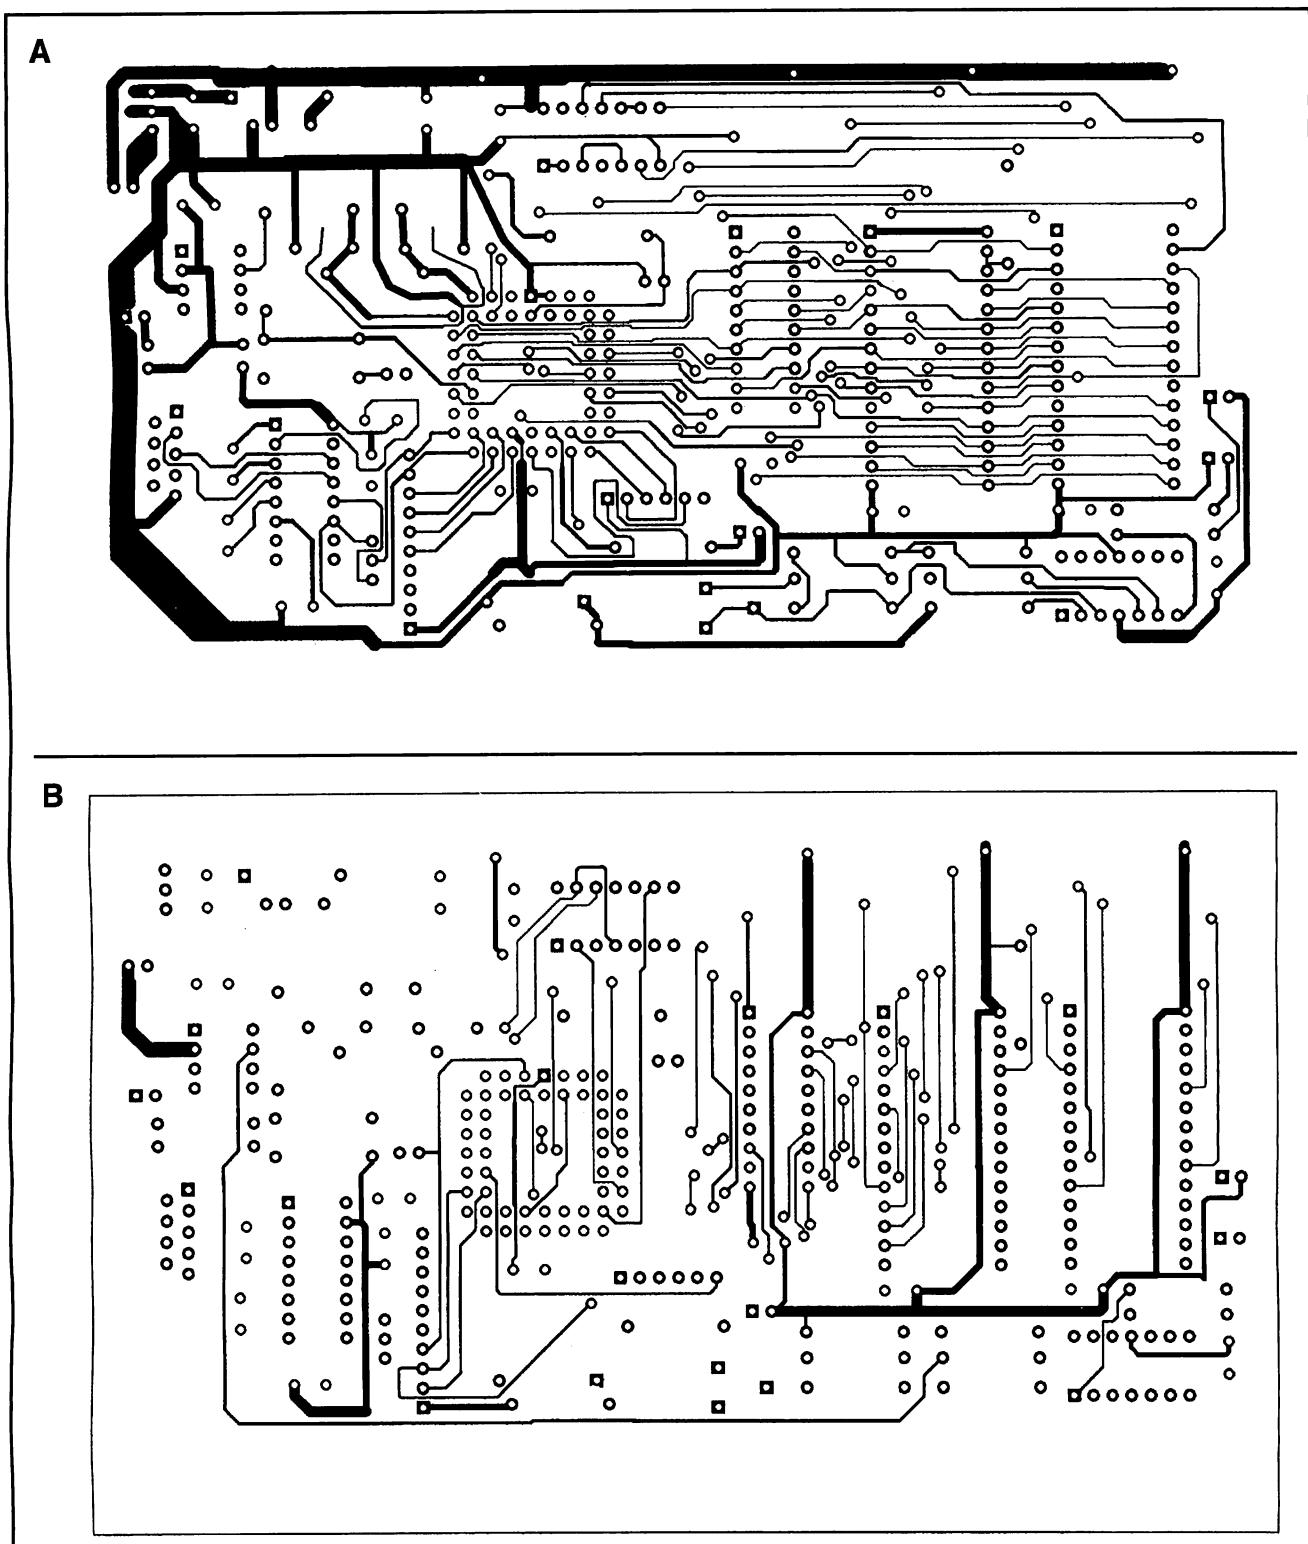

Fig. 2. Actual-size etching-and-drilling guide for MAGPRO11's printed-circuit board. (A) is solder-side view, (B) component-side view.
Except for the power supply, MAG-PRO-11 is a self-contained design. All components mount on a 3" x 6" double-sided printed-circuit board. If you wish to fabricate the pc board, use the actual-size artwork for the solder (A) and component (B) sides shown in Fig. 2. Alternatively, it's possible to wire the circuitry on a single-sided board with the copper traces in Fig. 2(A) and using Fig. 2(B) as a guide for installing wire jumpers in place of the traces shown. If you prefer not to make your own pc board,